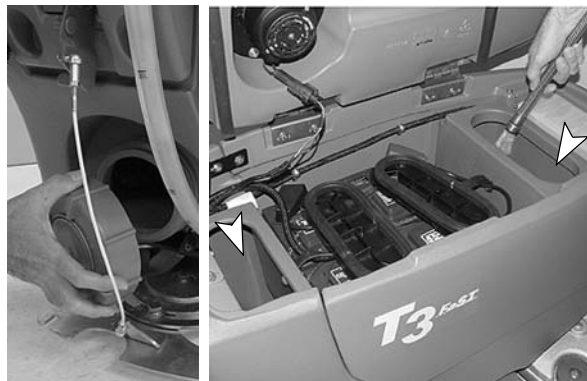

FIG. 30
2. To rinse out the solution tank, remove the clean-out cap at the rear of the machine and spray water, 60°C (140°F) maximum, directly into the two fill-ports located under the recovery tank (Figure 30).